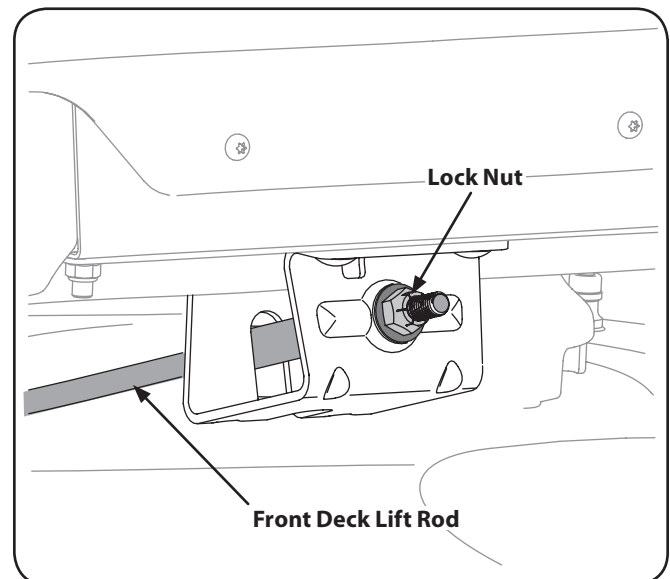

Figure 6-5
4. Using a wrench, raise or lower the left side of the deck by turning the adjustment gear. See Figure 6-5.
5. Using a wrench, raise or lower the front of deck by turning lock nut on the front deck lift rod. See Figure 6-5. The deck is properly leveled when the front tip of the blade is $\frac{1}{4}$ " lower than the rear tip. Retighten the hex bolt on the left and right rear deck hanger links when proper adjustment is achieved.